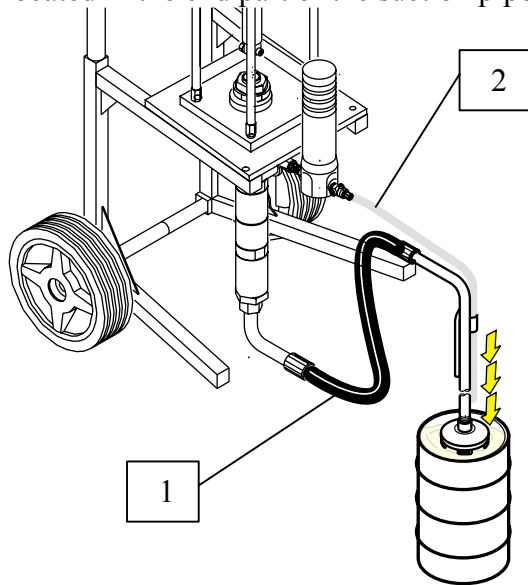

Fig.27
5) Insert the suction pipe 1 and the recycle pipe 2 into the container of the product to be delivered (fig. 27). The recycle pipe must be placed in the relative support located in the end part of the suction pipe.